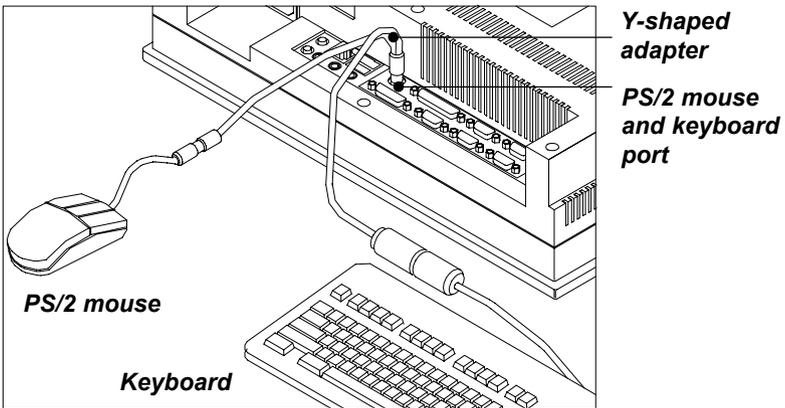
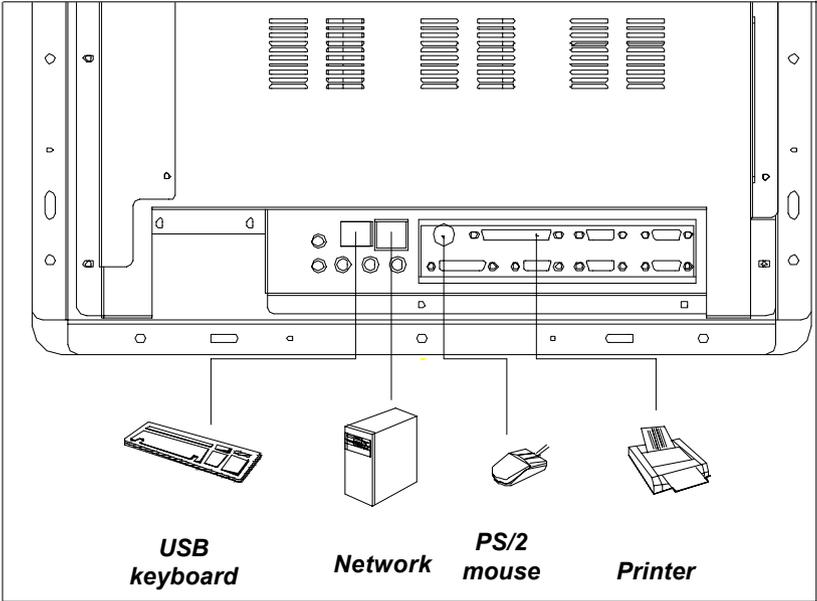

Figure 2-6: Connecting the keyboard and mouse
Figure 3-3: Using the I/O interface (upper level ports excluding COM ports)
1. Connect the Y-shaped adapter to the PS/2 mouse and keyboard port on the I/O section of the panel computer. (See Fig. 2-6.)
2. Connect the PS/2 mouse and keyboard to the Y-shaped adapter. (See Fig. 2-6.)
2. Connect the Y-shaped adapter to the PS/2 mouse and keyboard port on the rear bottom side of the rear cover. (See Fig. 3-3 and Fig. 2-6.)
3. If necessary, attach the other end of your printer cable to your printer, and fasten any retaining screws. A typical parallel printer connection is illustrated in Fig. 3-3.
1. Connect the external device to the system. (See Fig. 3-3.)
2. Connect the external device(s) to the panel computer. (See Fig. 3-3.)